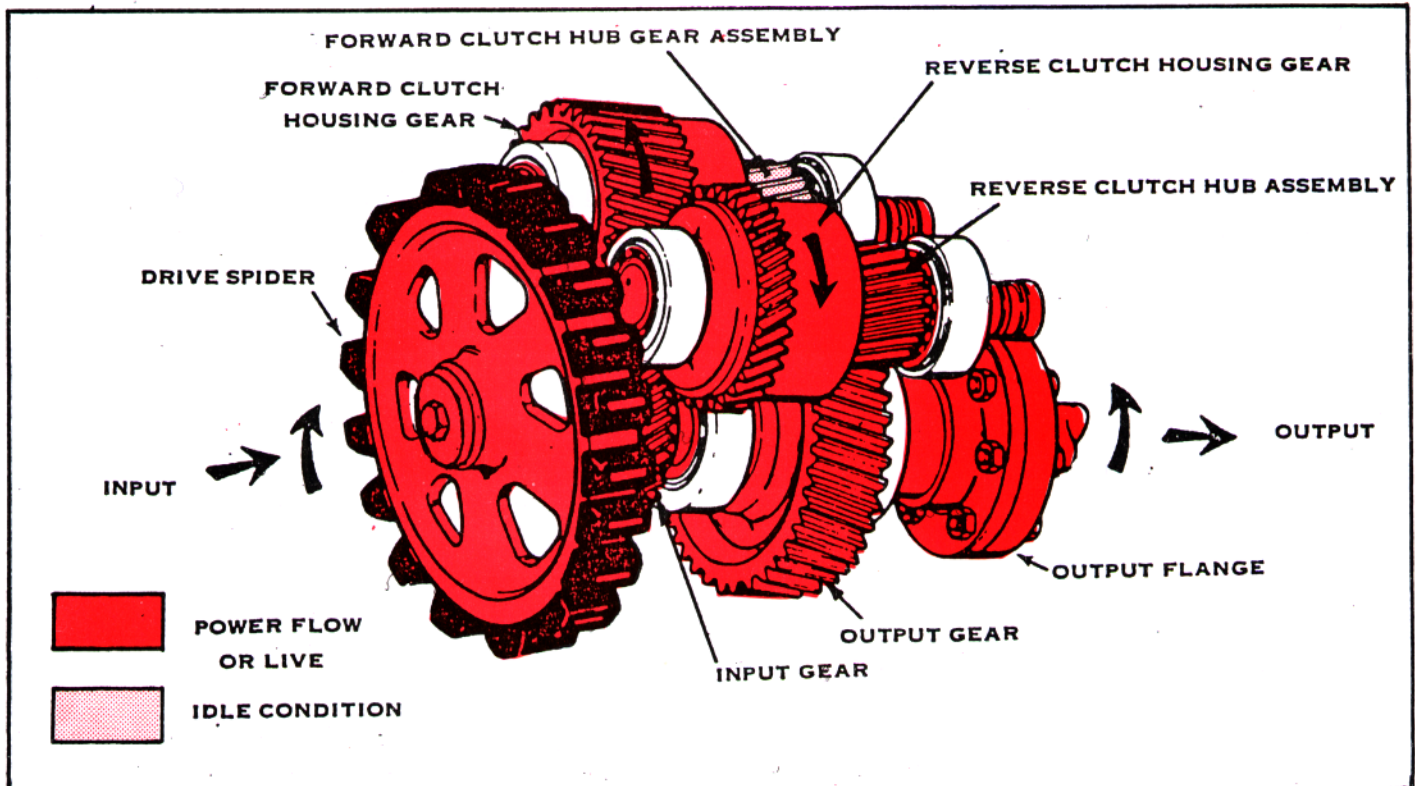

Figure 3-3. Model MG 506 A Marine Transmission Power Flow - Reverse - Schematic View.
3. Reverse. See Figure 3-3. When in reverse, all the marine transmission parts that rotated in neutral are still turning. However, when reverse clutch is selected, the reverse clutch steel and faced plates are clamped together by the clutch piston and back plate. The internal teeth of the steel clutch plates are meshed with the smaller diameter external teeth of the clutch hub pinion assembly, and turn the pinion gear at engine speed and in engine direction. The larger diameter external gear teeth of the pinion gear are in constant mesh with the output gear which is high press fit on the output shaft. The output flange is spline-connected to the output shaft and, therefore, the flange rotates in anti-engine direction when in the reverse clutch position. The output shaft and the output flange rotate at a speed that is reduced from the engine speed due to the ratio between the pinion gear and the output gear.